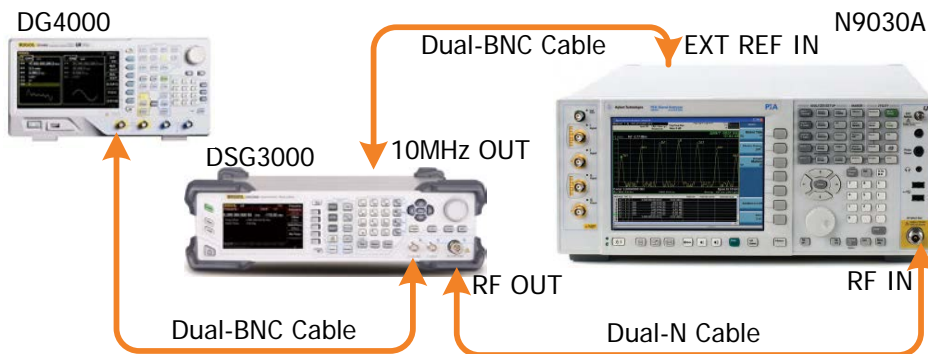

Figure 2-8 AM External Modulation Test Connection Diagram
1. Synchronize the DSG3000 and signal analyzer. Connect the RF output terminal of the DSG3000 with the RF input terminal of the signal analyzer. Connect the signal output terminal (e.g. CH1 output) of the function/arbitrary waveform generator with the external modulation input terminal of the DSG3000 as shown in Figure 2-8.